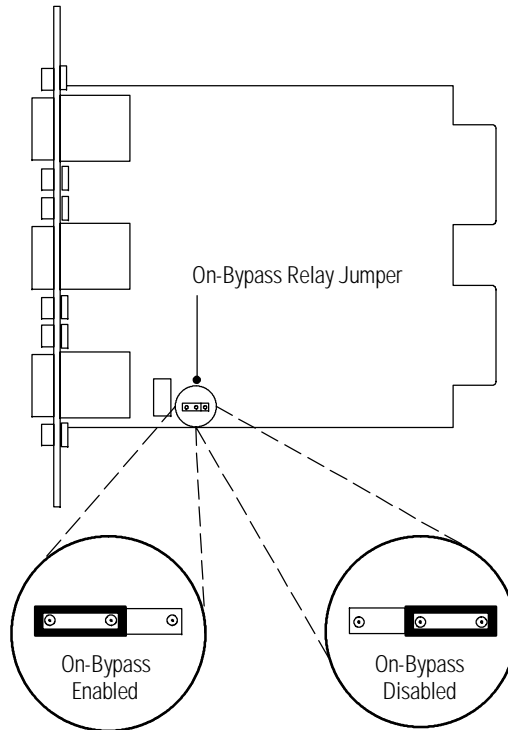

Figure 2. On-Bypass Relay Jumper
1. For On-Bypass relay only. If you plan to use the On-Bypass relay available on Port 1, verify that the jumper is in the Enabled position (see Figure 2).